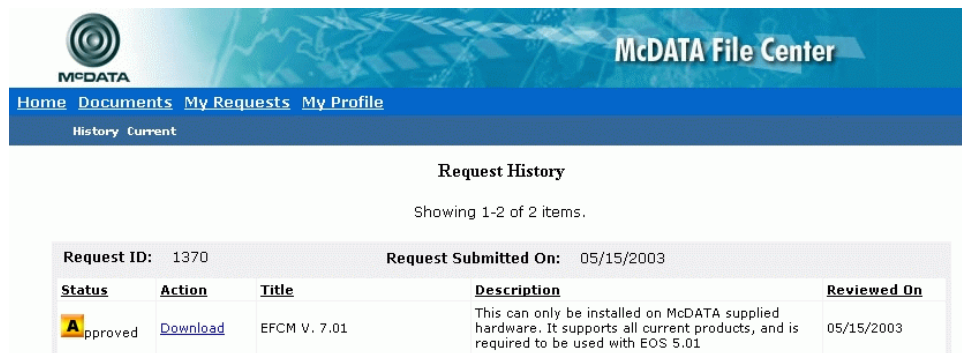

Figure 4-76 McDATA File Center (Request History Page)
- g. Click *Submit Request*. The *Request Submitted* page displays and the request for approval is e-mailed to the McDATA Solution Center. Wait five to ten minutes for a response from McDATA, then select (click) the *My Requests* option at the top of the page. The *Request History* page displays (Figure 4-76) with the approved request.